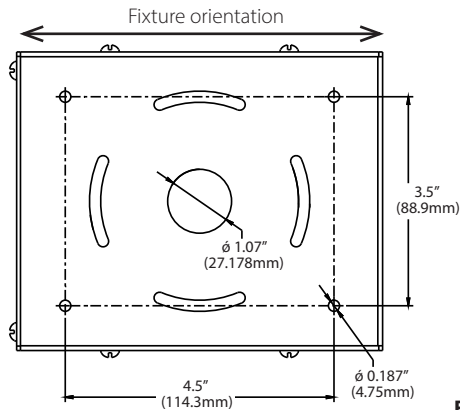

Fig. 4
2. Mount each **Pendant Box** to ceiling by drilling out **Drill Out Locations** as shown on **Fig. 4**. Use appropriate mounting hardware suitable for the mounting surface.
3. Slide **Pendant Boxes** onto **Pendant Box Plate/ Housing** and tighten **Screws (4)**.